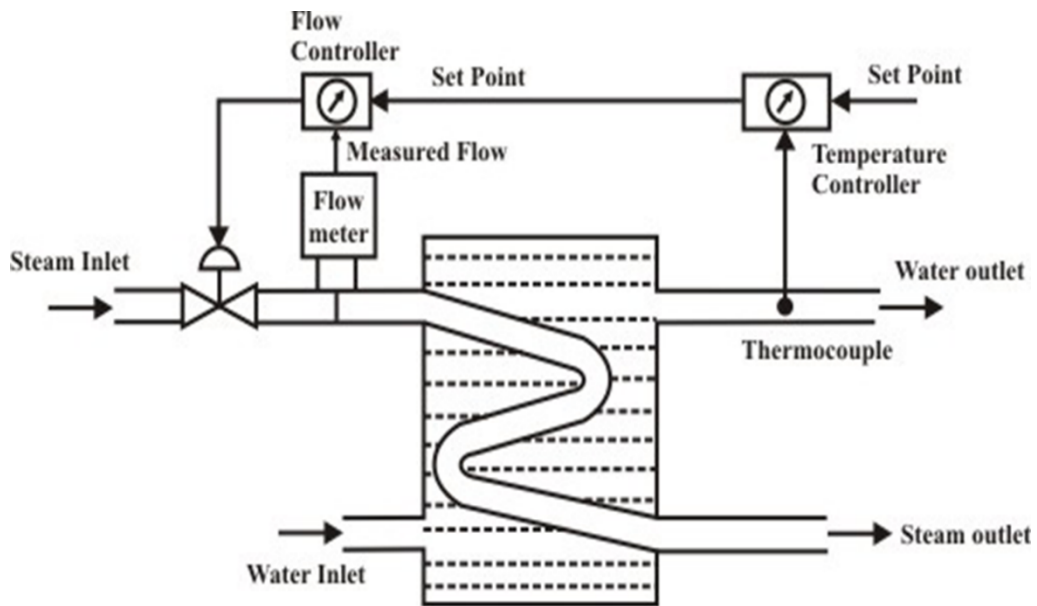
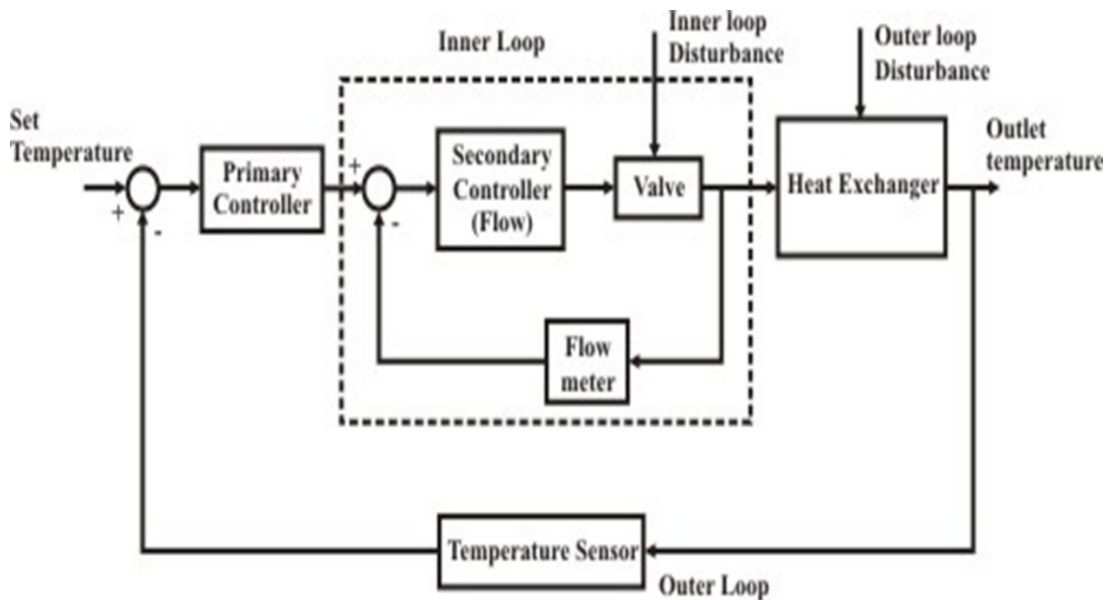

Fig. 2 Cascade Control
Fig. 3 Block diagram of a Cascade Control System
- The schematic arrangement of cascade control is shown in Fig.2. its block diagram is shown in Fig.3.
It is evident from Fig. 3, that the effect of disturbances arising within the inner loop (or secondary loop, as it is called sometimes) is corrected by the secondary controller, before it can influence the output, and the primary controller takes care of the other disturbances in the outer loop. As a result, the transient response of the overall system improves.
- Cascading makes the use of feed-forward control more systematic. In the heat exchanger example (Fig.2) it is possible to measure the water flow and add feed-forward compensation to the flow controller. This would improve the speed of response to fluctuation in water flow, which is a disturbance.